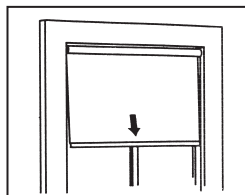

Fig. 3
1. If you desire more tension, pull the shade down half way and remove from brackets. (See Fig. 3)